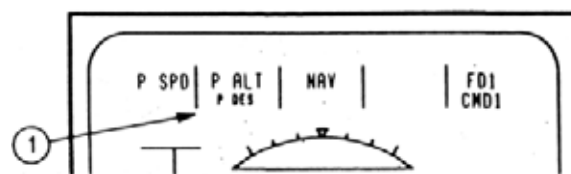

Figure 2-118
On the FMA portion of the PFD, P DES is displayed in CYAN under P ALT, to indicate to the pilot that the AP/FD is armed to capture the vertical profile defined in the FMC (1), Figure 2-118).